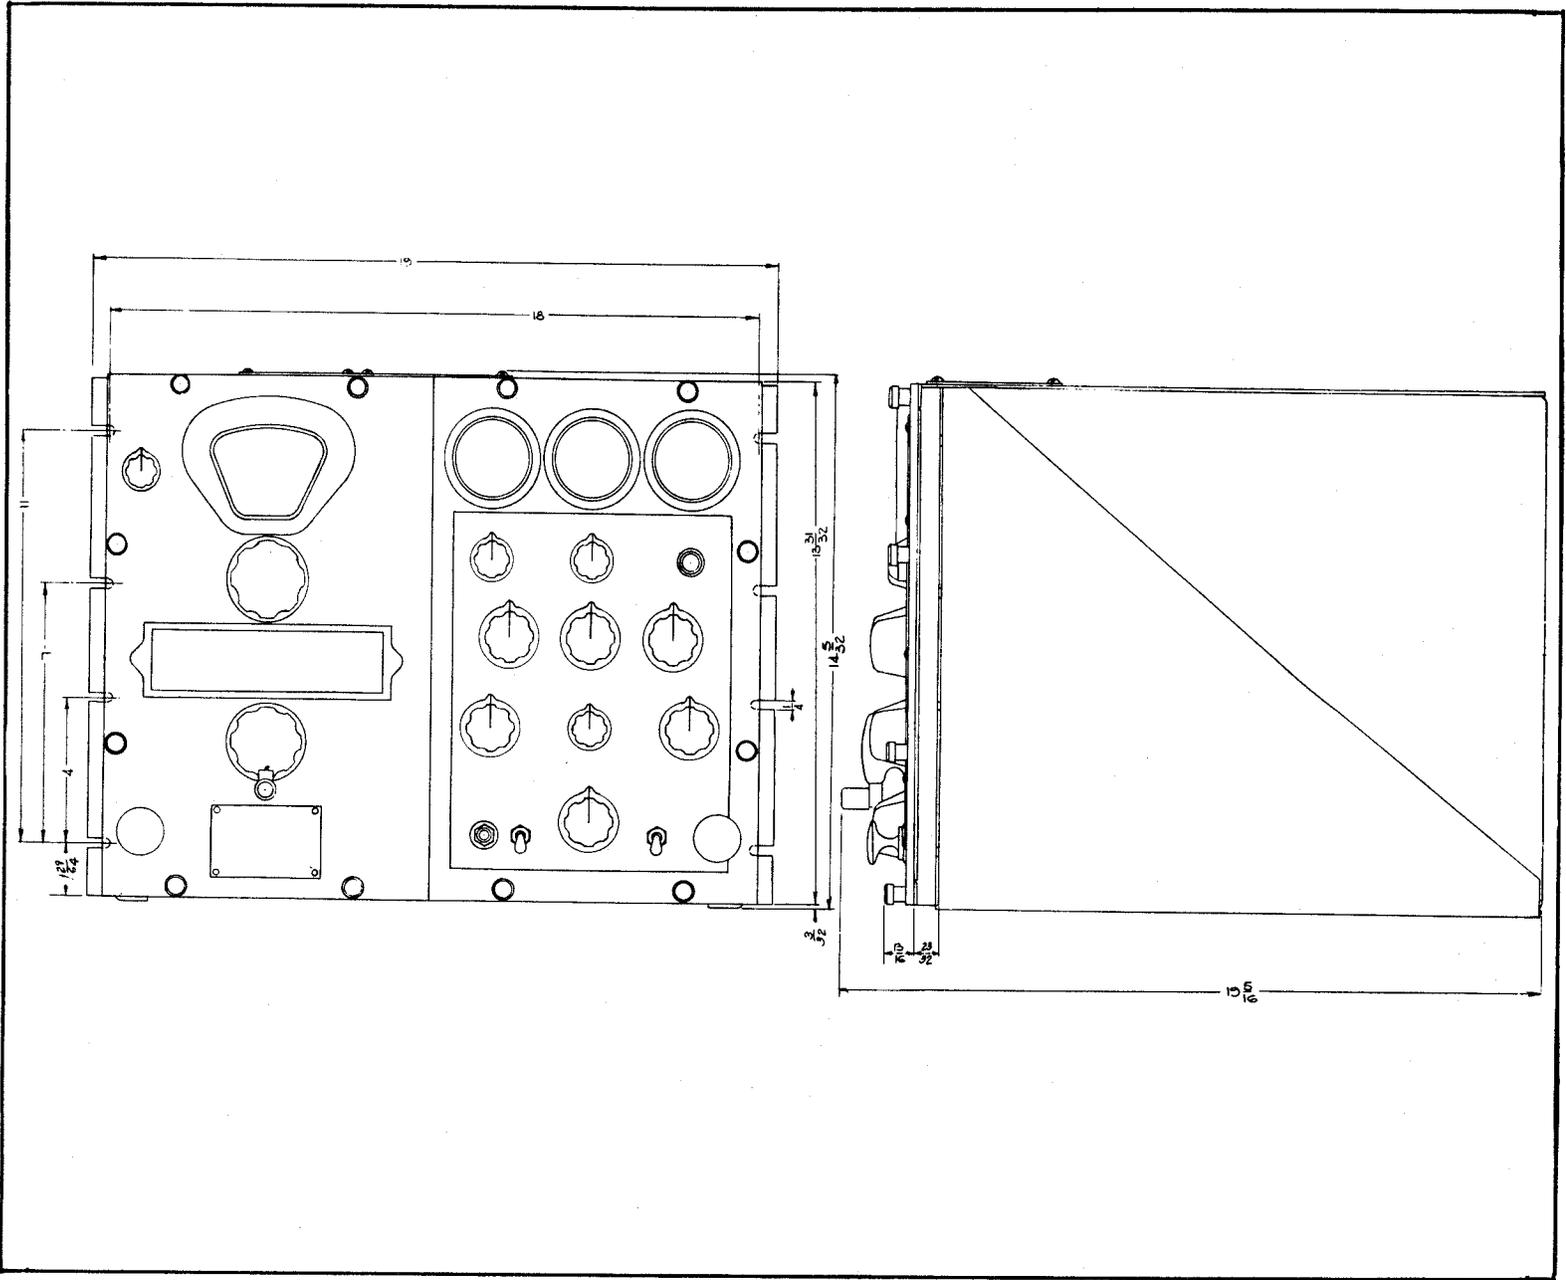
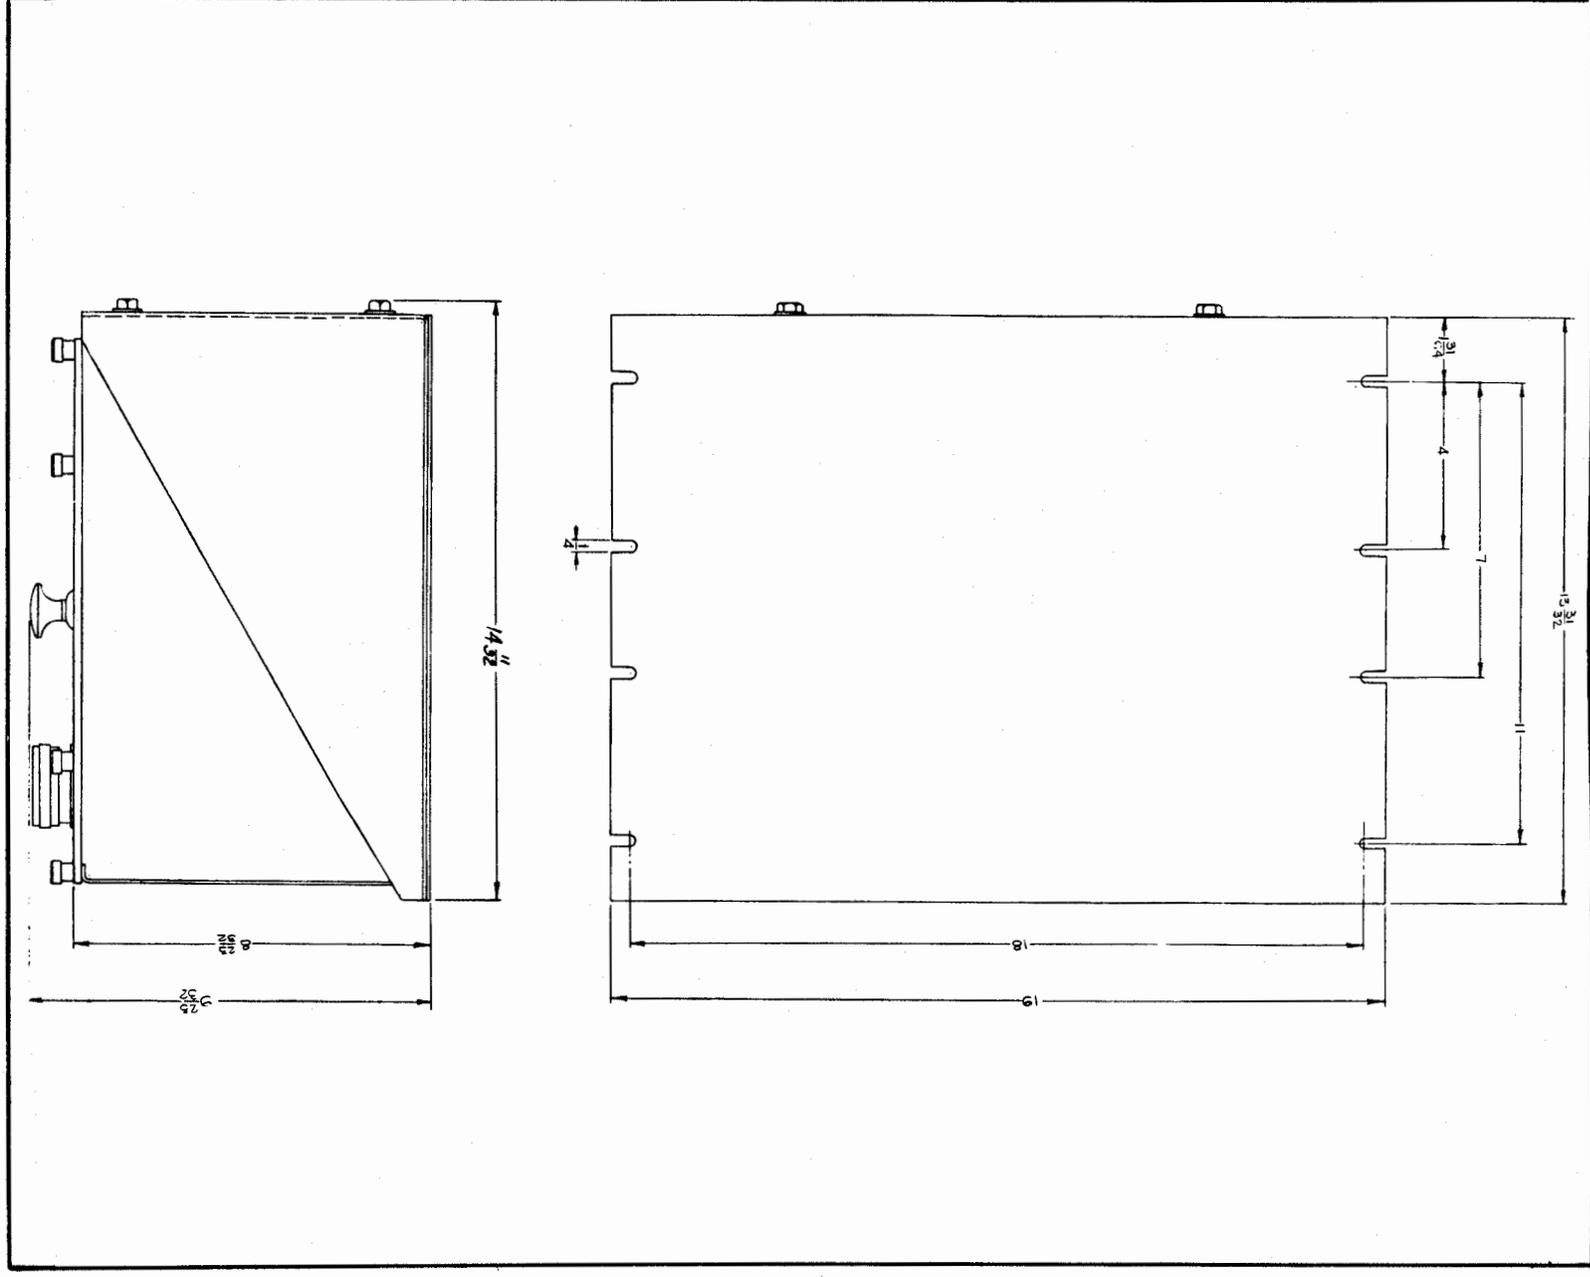

Figure 3-1. RBB-6/RBC-6 Rock-Mounting Dimensions and Outline
Figure 3-2. Power Unit Rack-Mounting Dimensions and Outline
a. RACK MOUNTING.—Rack mounting of the RBB-6/RBC-6 receiver and the Rectifier Power Unit requires only that the units be fastened to the rack with suitable nuts and bolts, which are not supplied. Figure 3-1 shows the receiver rack-mounting dimensions, and Figure 3-2 the power unit mounting details.